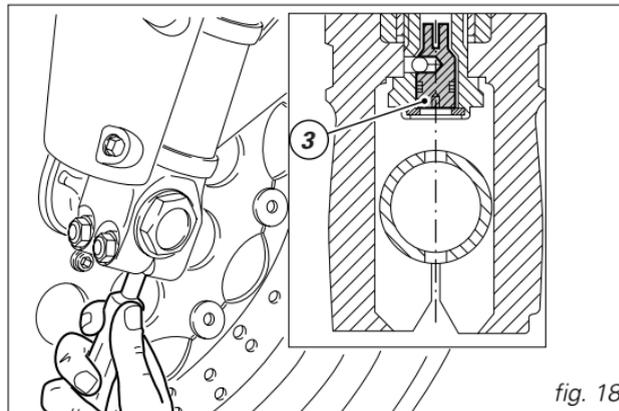

fig. 18
- 3) (fig. 18) to adjust compression damping.